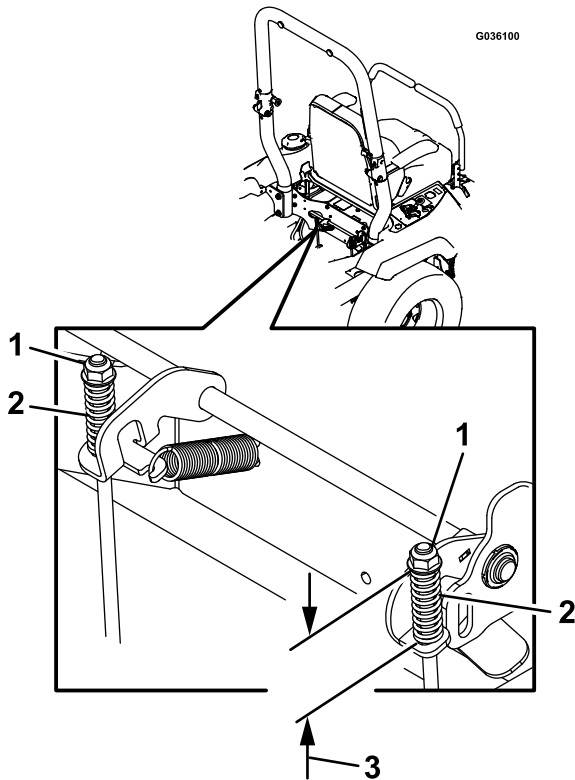

Figure 73
7. Check both spring lengths as shown in Figure 73. If an adjustment is necessary, turn the top nut clockwise to shorten the spring and counterclockwise to lengthen it.